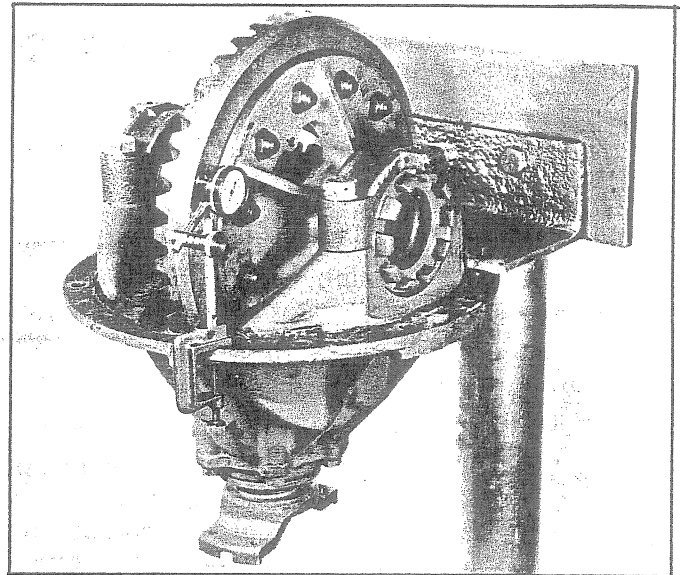

Fig. 121 - Checking Ring Gear Runout
21. Use a dial indicator, as shown in Fig. 121, to check the back face of ring gear runout. Runout must not exceed .007 in. total indicator reading.